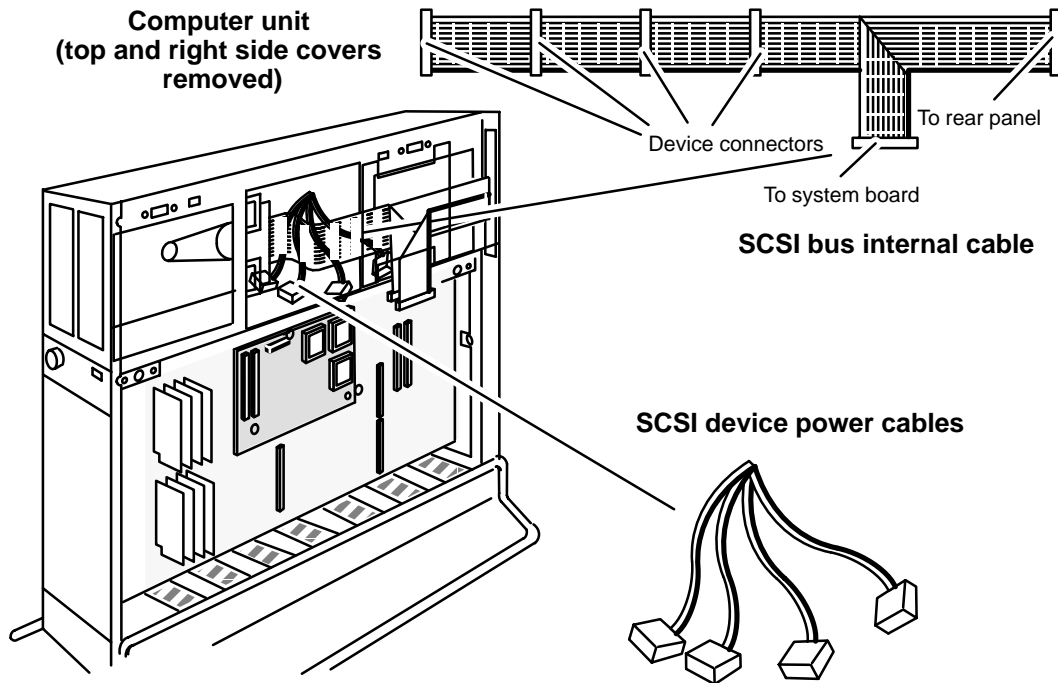

Figure 7-2 SCSI Bus Ribbon Cable and Device Power Connectors
1. Unplug the power and SCSI bus cables from the drive. If the drive assembly contains two half–height drives, unplug the cables from each drive. Figure 7-2 shows the internal drive ribbon cable and power connectors.